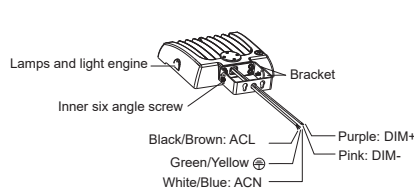

figure 4.3
Step 2: Match the wire connection according to the correct connections (match to positive wire, negative wire, and ground wire). (figure 4.3)